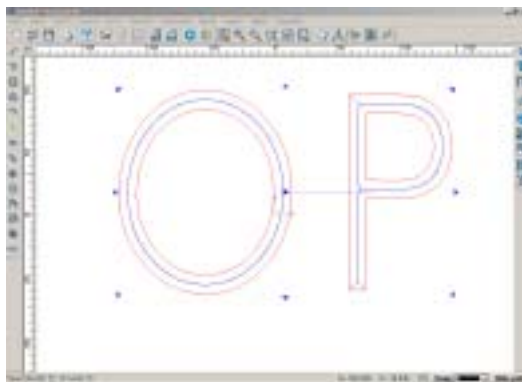

Fig. 10-31
3. Select a conical tool with a diameter of 0.3, height of 10 and angle of 45 degrees, total depth of 6, and select reverse machining, 3D. Then the effect is shown in Fig. 10-31.